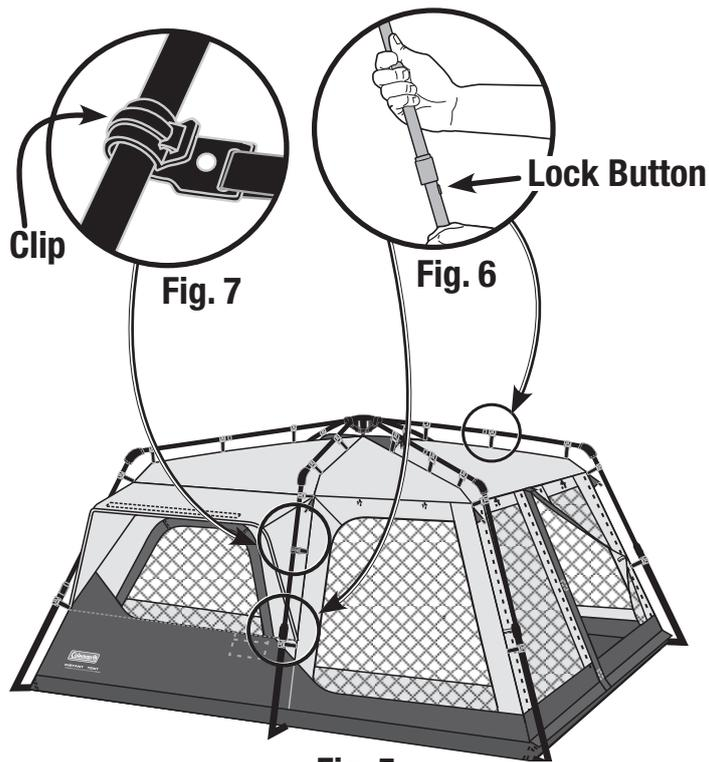

Fig. 5
- Fully extend the telescoping roof poles. (Fig. 5 and 6)
- Follow the previous manner to extend the telescoping leg poles until they snap into place. (Fig. 5 and 6) The tent will raise as the leg poles are extended.